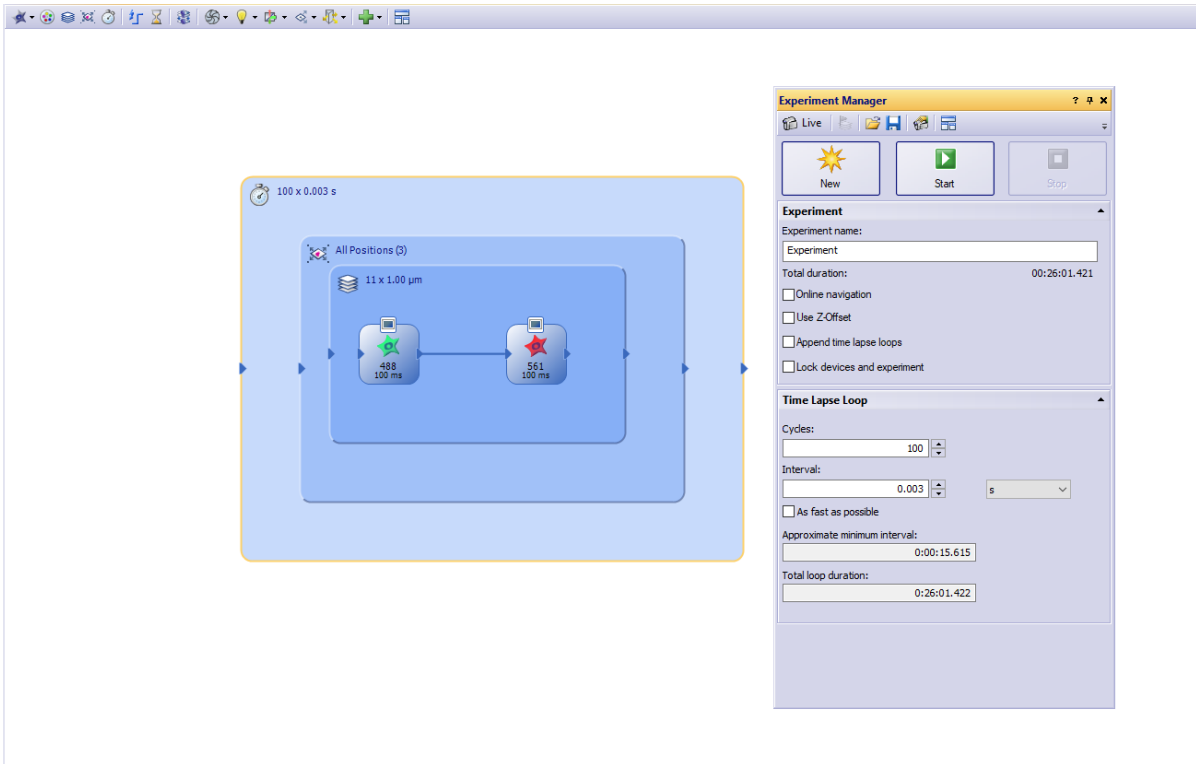

Fig.4 Experiment Manager
3.5.3 Loops (Fig.4)
- Two image acquisition elements enclosed in a time series frame will be executed as two channels over time with n time points (Fig.4)